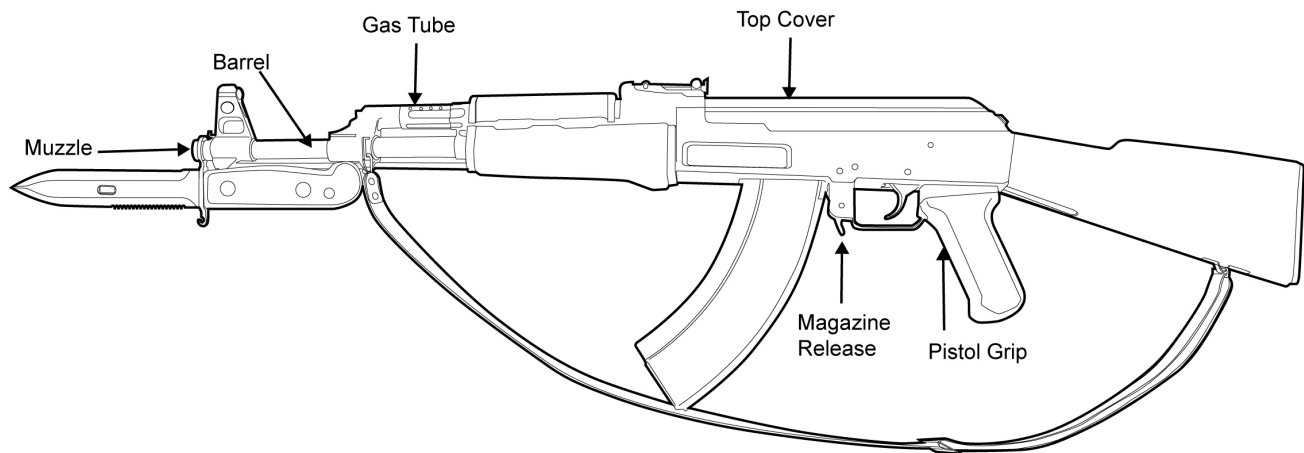

Figure 1. Left Side of the AK-74 Rifle.
4. **Left Side.** The left side view of the weapon displays the muzzle, barrel, gas tube, top cover, magazine release, and pistol grip. Refer to Figure 1.